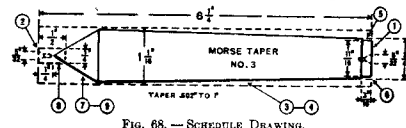

Fig. 68.—SCHEDULE DRAWING.
95. To make 14" engine lathe live center, Fig. 68.